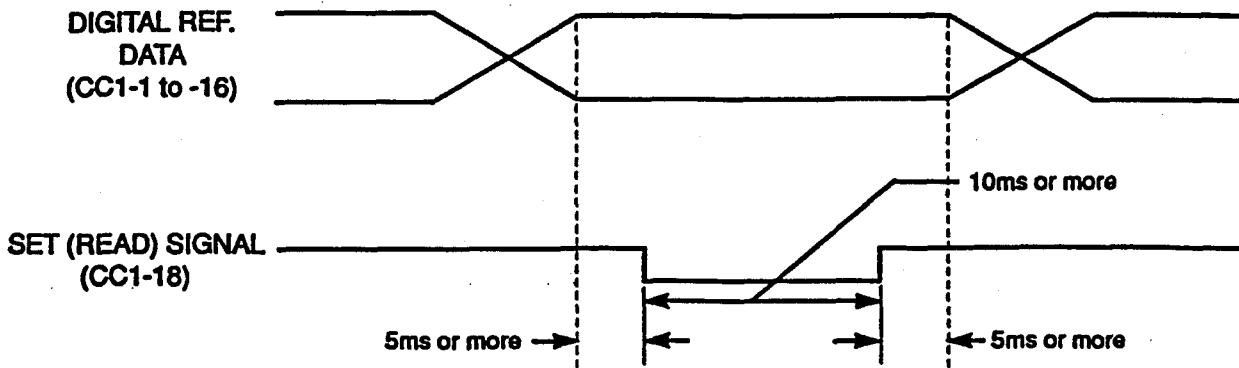

Figure 3. Timing of Reference Input
6. **Adjustments.** There are no other adjustments to be made on the Digital Speed Reference option except S1 (see Table 2); however, the Drive will have to be reprogrammed for the input requirement of the digital reference. See Figure 3, and refer to the Technical Manual description of system constant Sn-26, and Multi-function Input (Sn-15 thru Sn-18 data 02).